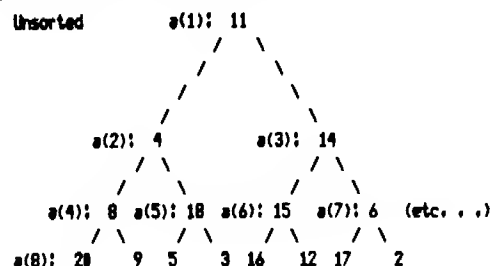

Figure h1
This algorithm is attributed to J. W. J. Williams (Communications of the ACM, vol. 7, June 1964, pp. 347-348). The heapsort treats the one dimensional array as a binary tree with each parent node N having two children; the (2N)th and the (2N+1)th nodes. For example, the a(2) array element has for its children a(4) and a(5) (2N=4 and 2N+1=5; see Figure h1).